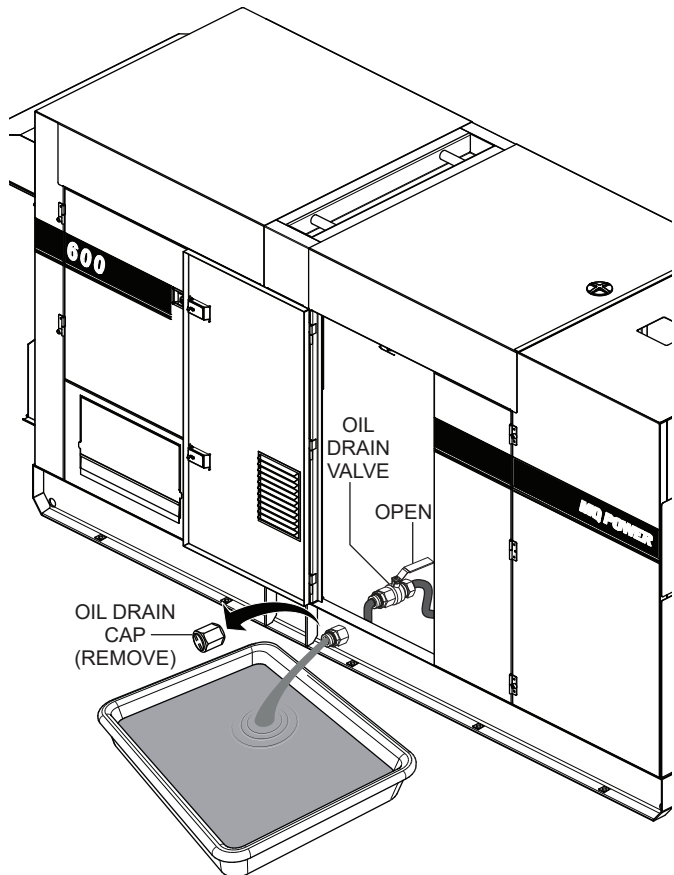

Figure 61. Draining The Engine Oil
3. Remove the **oil drain plug** (Figure 61).
4. Place the **oil drain valve** in the **OPEN** position and allow the oil to drain into a suitable container (Figure 61).